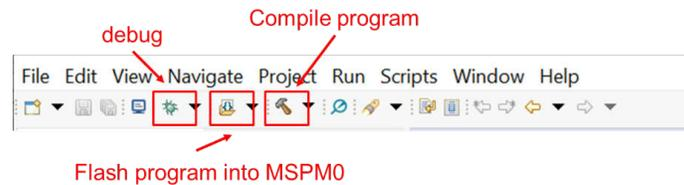
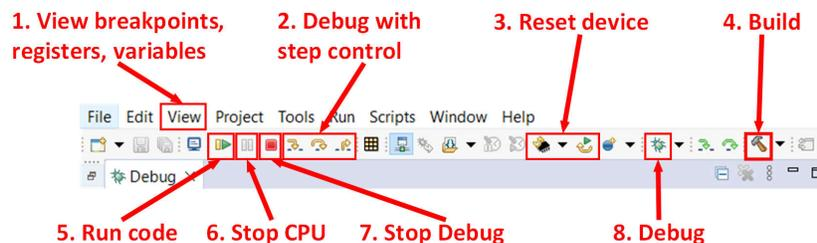

Figure 2-20. Commonly Used Function
Figure 2-21. Commonly Used Debug Functions
- Figure 2-20 and Figure 2-21 show a quick introduction to CCS functions.